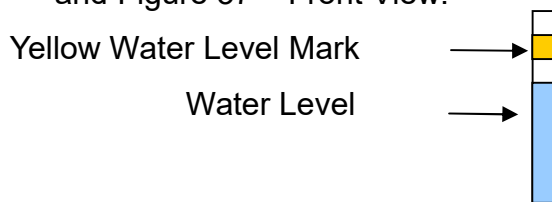
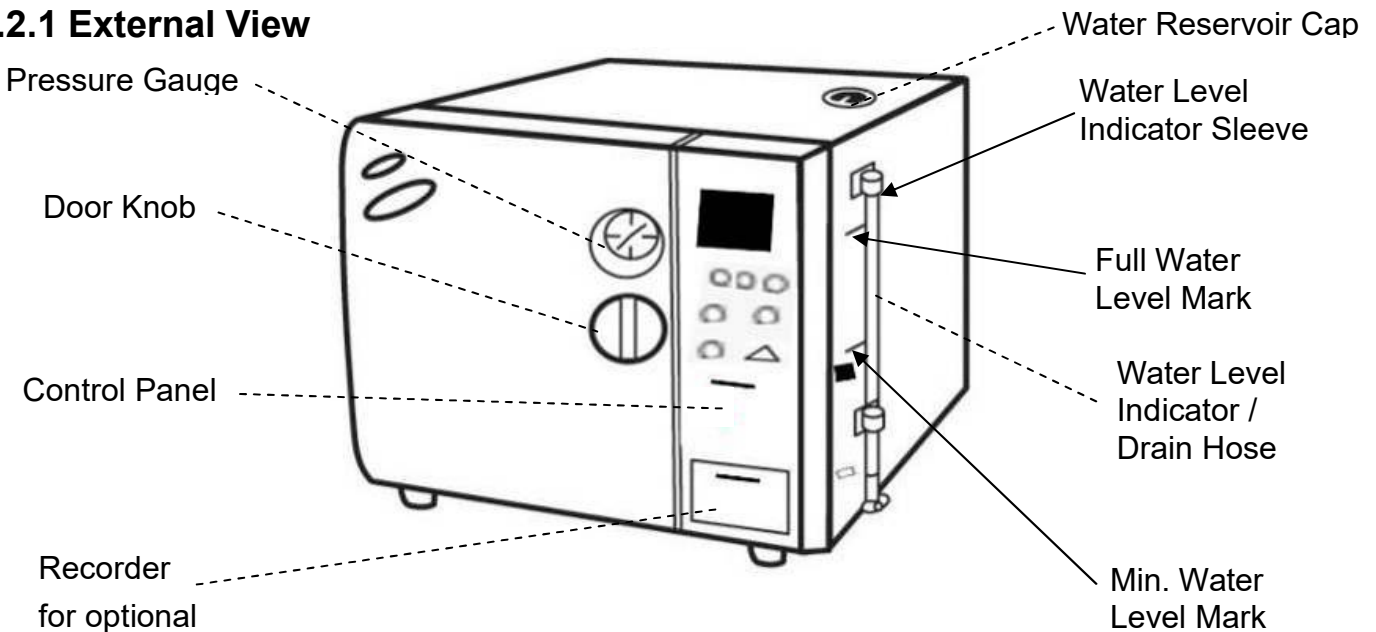

Figure 25
Figure 37 – Front View
- CAUTION:** Please fill Water for Sterilization or Distilled Water Only into the sterilizer. Please do not fill water over the yellow water level mark as shown in Figure 25 and Figure 37 – Front View.